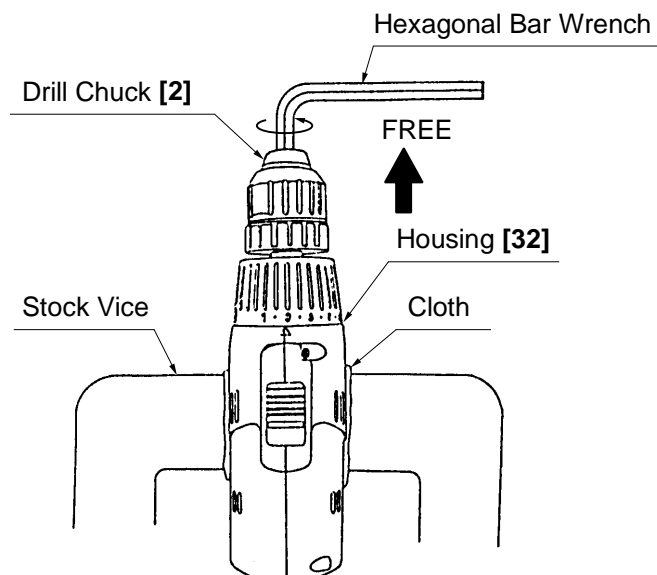

Fig. 6
(1) Remove the Drill Chuck **[2]**. (See Fig. 6)
- (b) Fit the Hexagonal Bar Wrench for M10 into the Drill Chuck **[2]** as indicated in Fig. 6 and remove it by turning counterclockwise. If it is difficult to loosen, use a pipe or other tool.